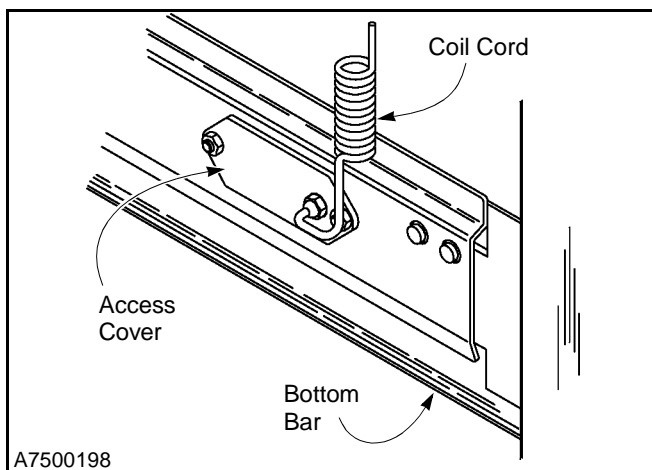

Figure 76
2. Remove the kill switch access cover at the end of the bottom bar assembly. The kill switch is mounted behind the access cover holding the coil cord. (See Figure 76.)